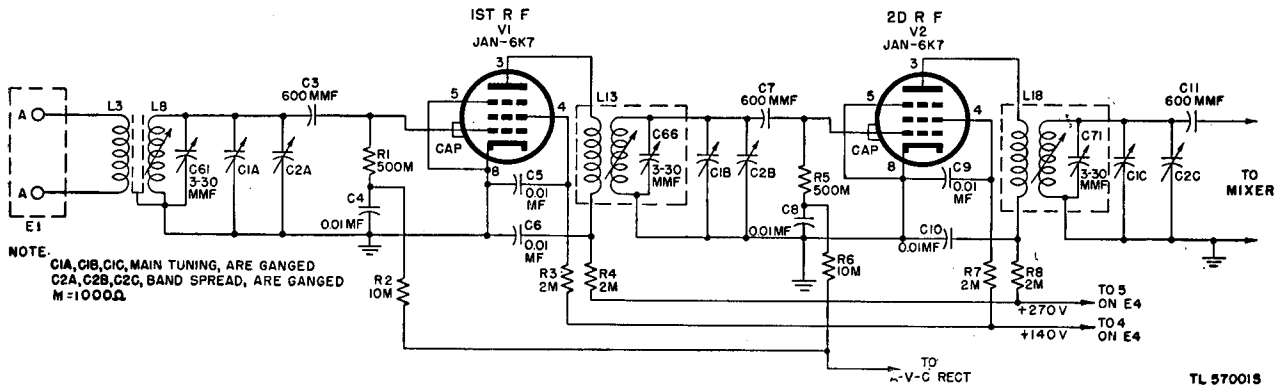
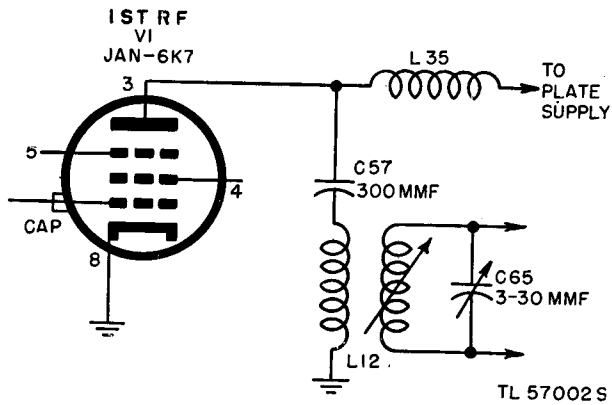

Figure 25. Radio Receiver BC-779-B, functional diagram of r-f amplifier.
Figure 26. Radio Receiver BC-794-B, functional diagram of 1st r-f stage.
#### 59. R-F Amplifier (fig. 25)
For simplicity, only the circuits for the 2.5- to 5.0-mc band are shown and the band switching arrangement is omitted from figure 25. The band switching circuits are discussed in paragraph 68.
c. DIFFERENCES IN R-F CIRCUITS. (1) *Plate supply*. In Radio Receivers BC-779-(\*), BC-1004-(\*), and R-129/U, plate voltage is series-fed through resistance-capacitance (R-C) decoupling circuits and the r-f transformer primaries (fig. 25). In Radio Receiver BC-794-(\*) plate voltage is shunt-fed by means of choke L35 and 300-mmf capacitor C57 in the first stage, and choke L36 and 300-mmf capacitor C58 in the second stage (figs. 26 and 57). This method was chosen to keep plate voltage off the tuned impedance interstage coupling circuits L49, C99, and L50, C100, of the 20-40-mc band. Decoupling filters R4, C6, and R8, C10, are not included.